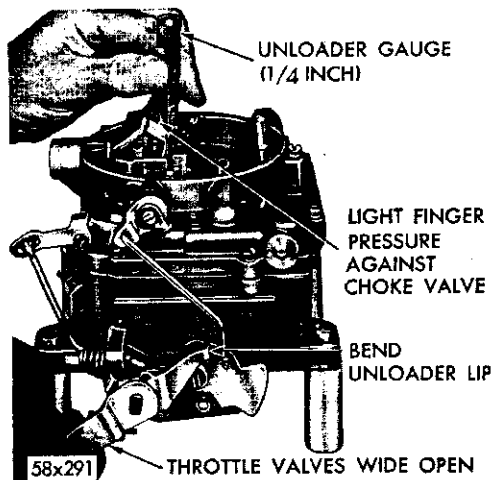

Fig. 15—Measuring Choke Unloader (wide open kick) Adjustment
(1) With the throttle valves in the wide open position, it should be possible to insert Tool T109-31 ($\frac{1}{4}$ inch) gauge between the upper edge of the choke valve and the inner wall of the air horn, as shown in Figure 15.
(2) If an adjustment is necessary, bend the un-